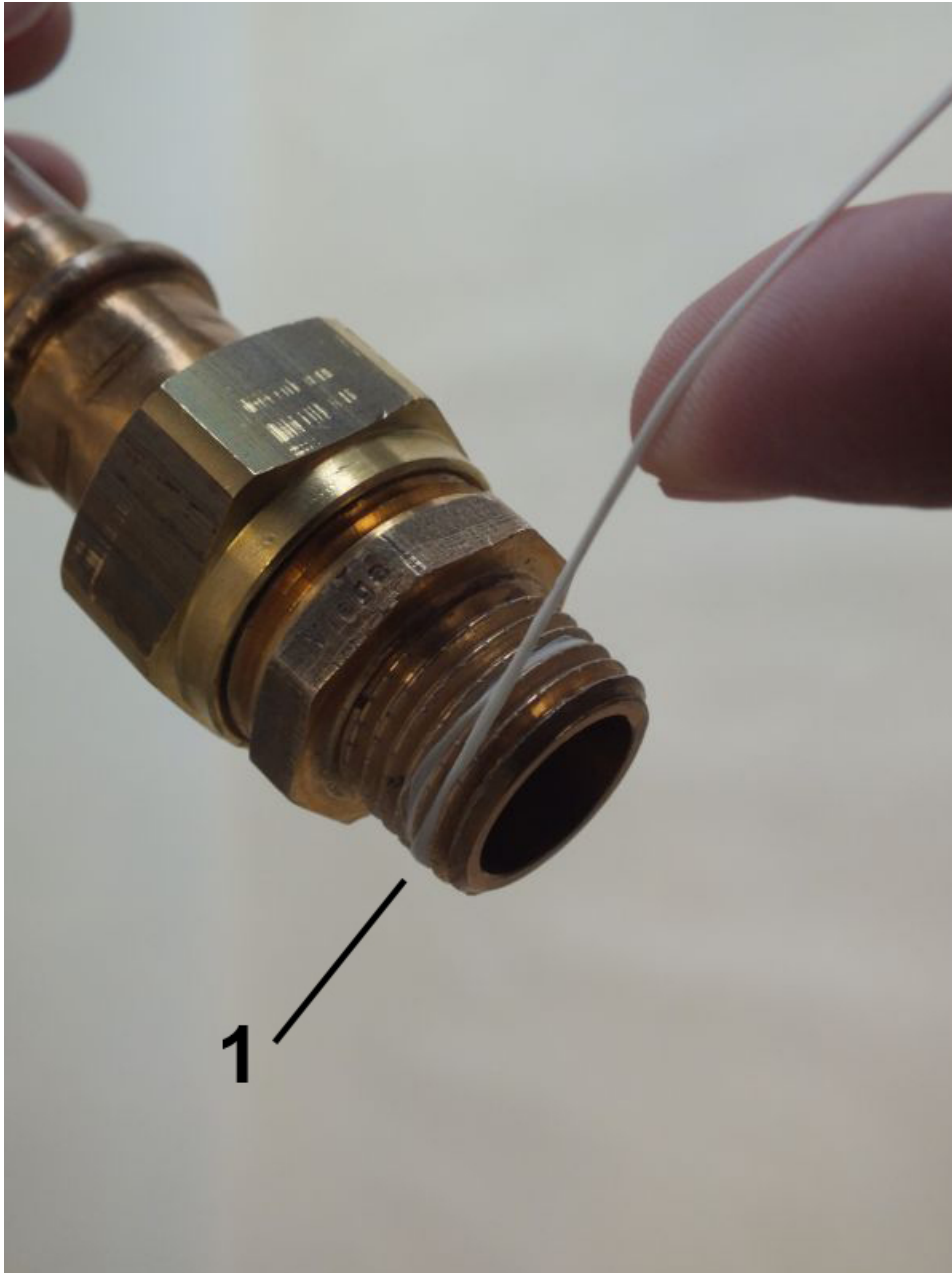

Fig. 9: Apply sealing thread
- 2.** Apply sealing thread (Fig. 9/1) to the napped area in the threaded direction. Observe the quantity recommended by the sealant manufacturer